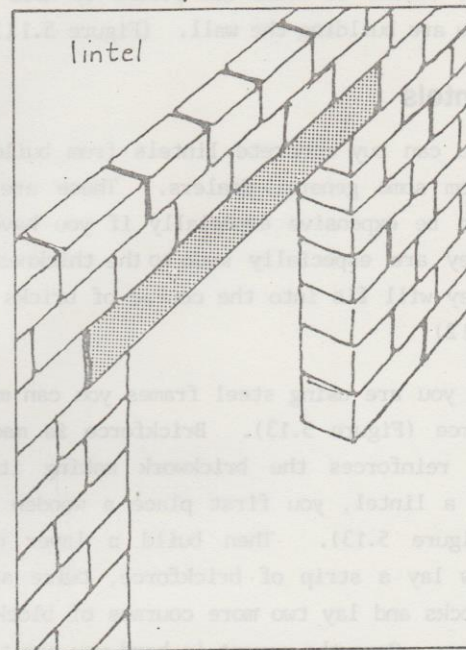

Fig.5.12 PRECAST LINTEL
N.B. : Don't forget to leave spaces for doors (i.e. the size of the door frame to fit in, once you are at floor level. (Figure 5.12). This should be at least 150 mm above ground level.
You can buy concrete lintels from building material suppliers and even from some general dealers. These are good and also easy to use but can be expensive especially if you have to transport them a long way. They are especially made to the thickness of a brick or block so that they will fit into the course of bricks / blocks above the frame (Figure 5.12)
When fitting a window frame into the wall you should always make the top of the frame line up with the course joint (Figure 5.12). At the bottom of the frame there should be space for the window sill to be built in.